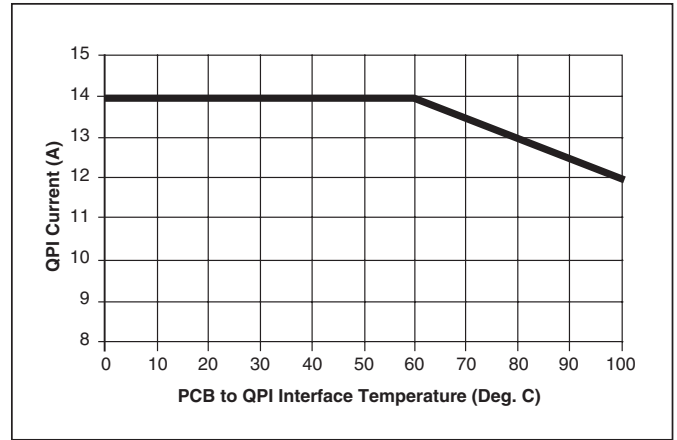

Figure 5 – QPI-5 current derating curve.
- -40° to +100°C PCB temperature (See Fig. 5)
Note 2 - Refer to Figure 5 for current derating curve.
The current derating curve shown in *Figure 5* should be used when the PCB temperature in close proximity of the QPI-5 exceeds 60°C. For example, the QPI-5 will support up to 11 A of current or 308 W from a 28 Vdc bus at an 80°C interface temperature. Temperature should be measured at the PCB interface to the QPI-5 on the Bus +/- pads or the QPI+/- pads. Refer to *Figures 9, 10 & 12* for PCB layout recommendation.